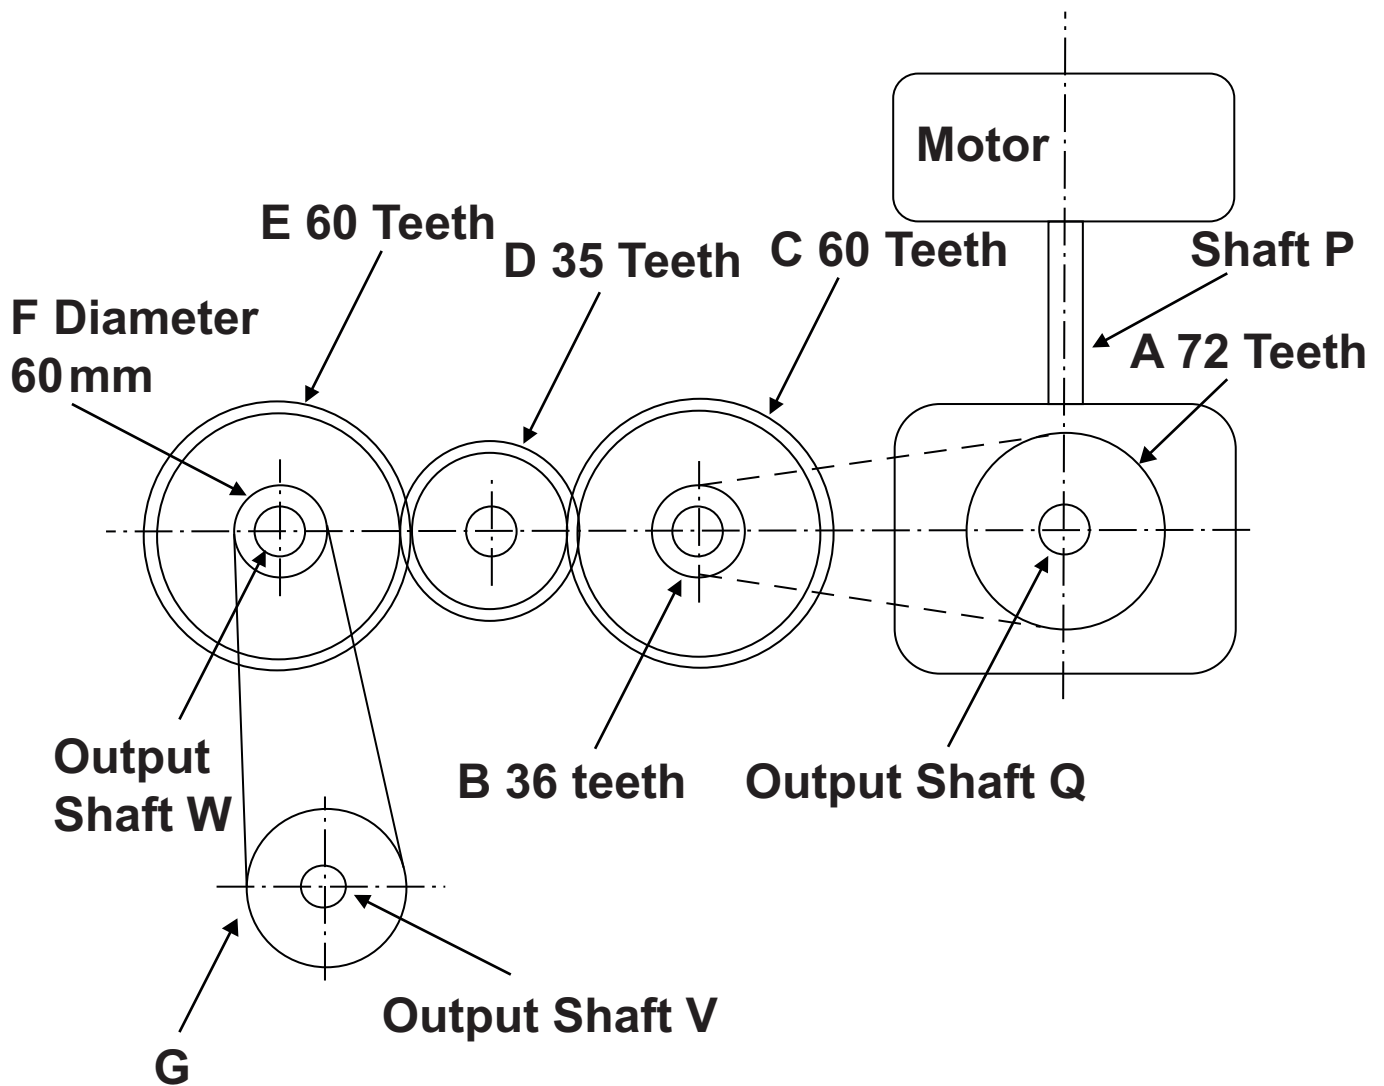

Fig. 8
- 4 **Fig. 8** shows a mechanical system used to provide rotary motion through three output shafts to various parts of a prototype funfair display.
(c) The mechanical system shown in **Fig. 8** (on page 19) is to be enhanced to include a pneumatic system capable of pushing **Output Shaft V** from side to side. The shaft is located on a moveable housing which requires reciprocating motion to be provided by a double acting cylinder (DAC). **Fig. 9** (opposite on page 23) shows an incomplete pneumatic circuit incorporating a double acting cylinder (DAC) and a 5PV.